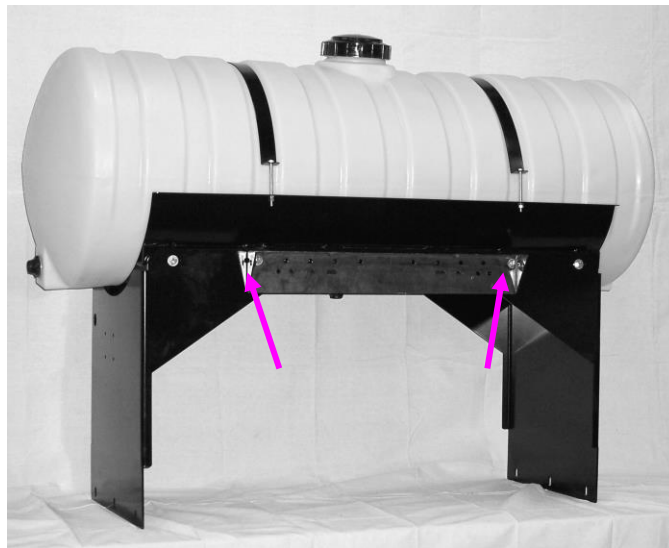

Figure 2
2. Connect the pump plate mounting bracket (001-4646C), shown in Figure 2, to the two inside holes, using two 3/8 x 1 1/4 bolts, locks, and flat washers. Tighten all 3/8 inch bolts.